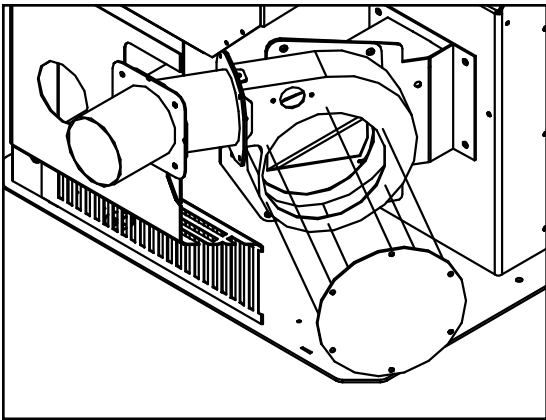

Figure 21: Exterior Blower Kit.
1. Remove the left hand cabinet side by removing the two (2) screws down the front. Loosen the three screws on the back of the cabinet side and remove panel.
2. Loosen the six (6) screws that hold the back grill in place. Lift the back grill off the screws.
3. Disconnect the Exhaust blower wires from the wire harness. Remove the exhaust blower motor from the housing; six (6) screws. Cover hole in housing with cover plate provided (see Figure 21).
5. Install the exhaust blower housing box into the pipe placed through the wall thimble, seal with high temperature silicone. Fasten the box to the wall with (4) four screws, seal edges of box to wall with clear silicone.